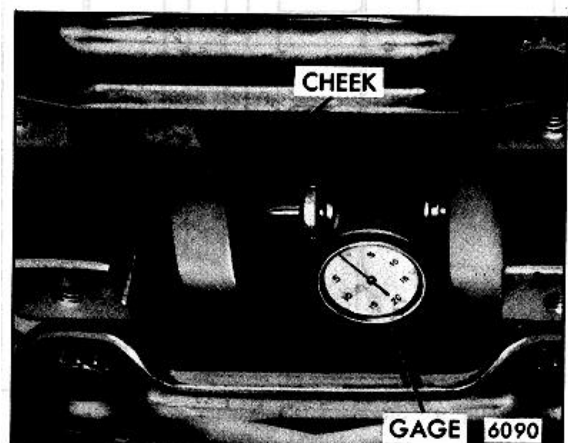

Fig. 11. Crankshaft Distortion Measuring Gage Mounted on Crankshaft.
- c. Install a gage (Starrett Co. No. 696 dial gage, or equivalent) in the center punch holes in the cheek of each counterweight as shown in Fig. 11.